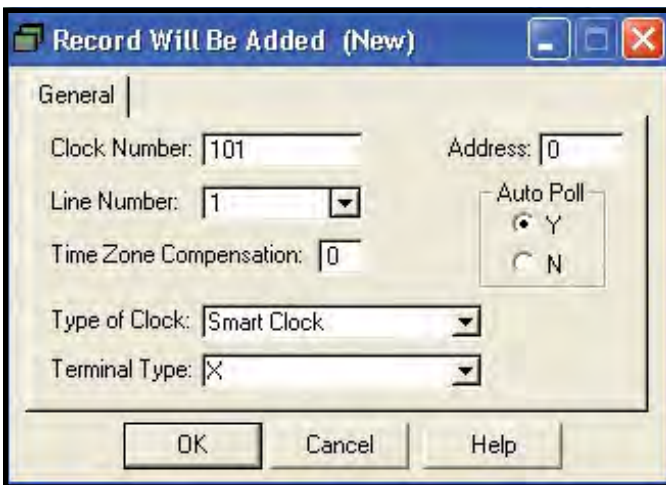

Figure 80. Out-of-the-Box™, Record Will Be Added window
- X. The “Record Will Be Added (New)” window will open. The following fields will have to be configured for modem use (see Figure 80):